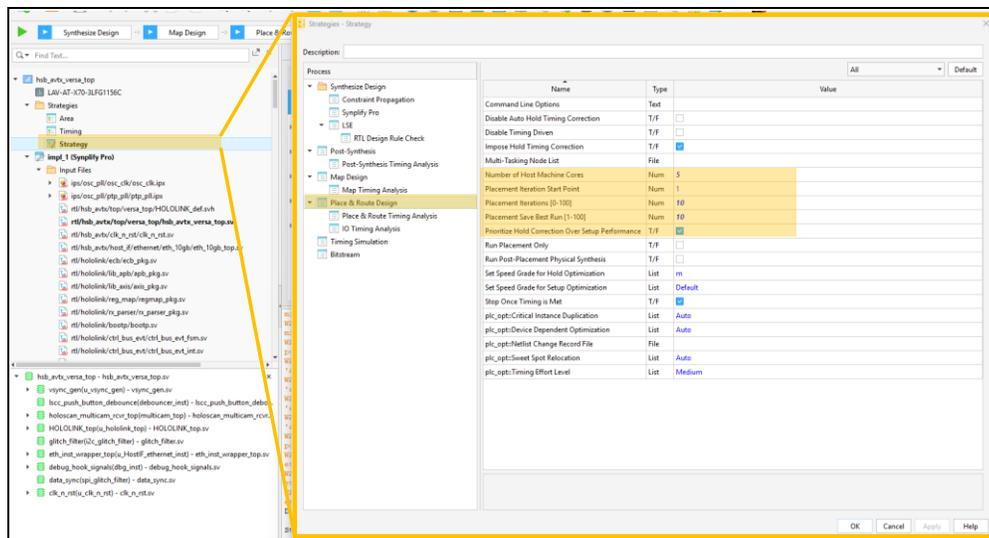

Figure 5.6. Place and Route Design’s Strategy
4. Modify the Place and Route design strategy details under **Strategy1 > Place & Route Design**. Refer to Figure 5.6. The seed run count has been increased to 10 for this reference design, allowing you to select the reference design with the best place-and-route result and the best STA report. Specify multiple seeds for placement and routing during implementation¹.